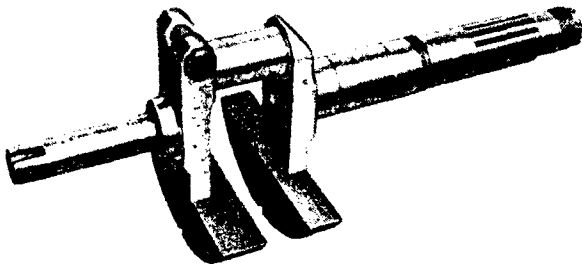

Figure 16 — Crankshaft Assembly Part No. A5180
5. CRANKSHAFT (See figures 16 and 17)